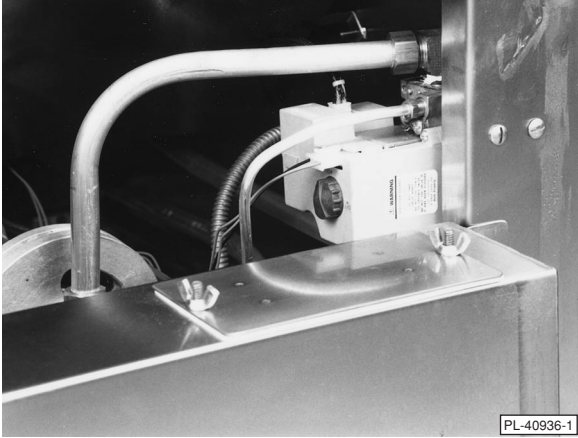

Fig. 4
1. Turn gas combination control valve (Fig. 4) (located at the rear of the fryer) clockwise to the OFF position.